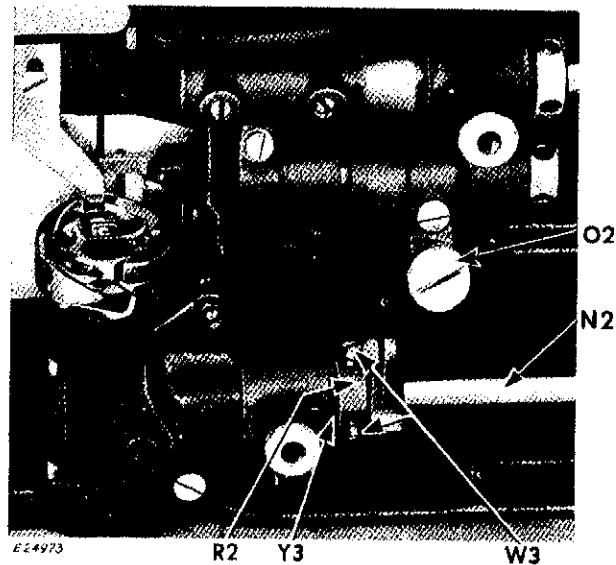

Fig. 51. Rotating Hook Driving Shaft
There should not be end play or binding in the rotating hook driving shaft **N2**, **Fig. 51**.
To remove end play or binding in the hook driving shaft **N2**, loosen the two screws **W3**, **Fig. 51**.
2. Slide shaft to the right and mount feed lifting eccentric **R2, Fig. 51** with collar adjacent to bearing **Y3**.